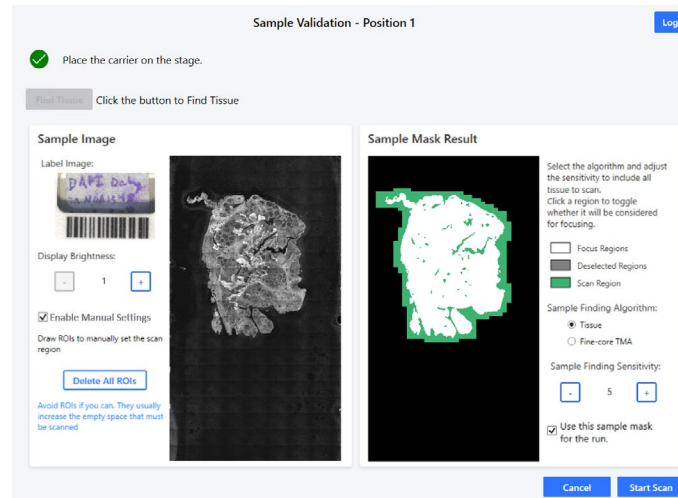

Figure 6.16. Dialog window, Sample Validation complete.
7. The Start Scan button will be enabled. (See Figure 6.16.)